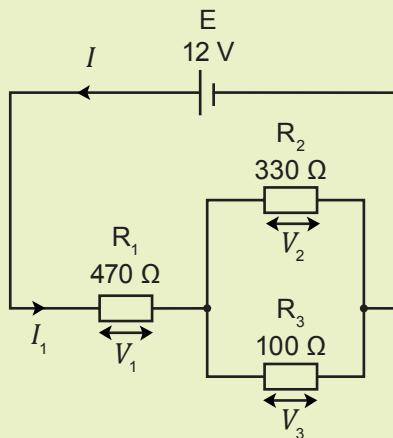

Figure 4.29
1. Figure 4.29 shows a series-parallel circuit. Calculate the following: